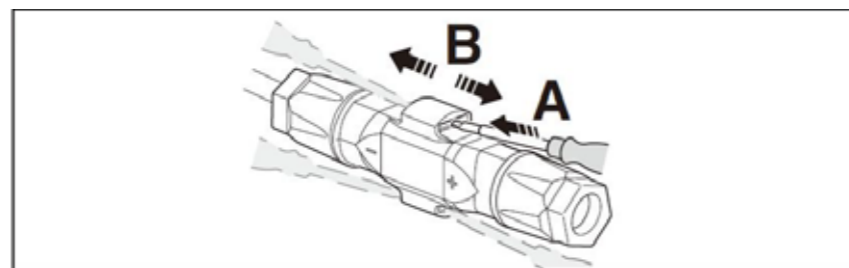

Figure 5-16
- 1) Insert the screwdriver into one of the four openings (Figure 5-16, A).
- 2) Leave the screwdriver in the opening. Pull the two connectors apart (Figure 5-16, B).